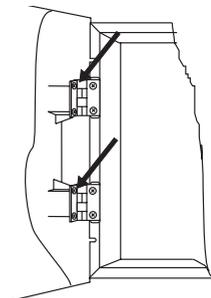

Figure 3.
- Remove the front panel by undoing the screws of the hinges - Figure 3. (**NB.** *The screws at the metal bottom can also be undone. What is special here is that there are two plastic pads under the very hinges. These pads need to be placed back again under the hinges when mounting the front panel.*)